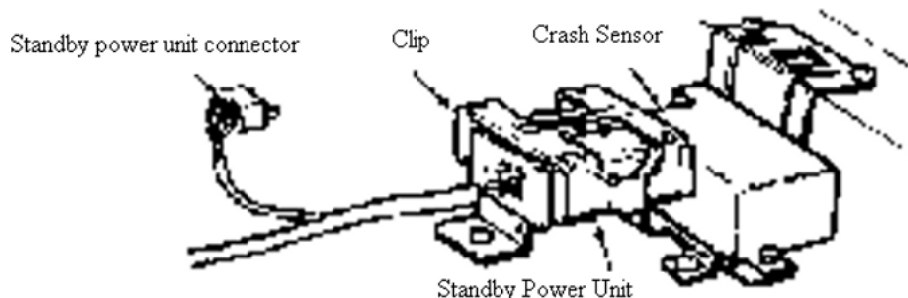

Fig. 4: SRS Crash Sensor & Standby Power Unit
3) Crash sensor is located under driver's seat in same bracket with standby power unit. See Fig. 4. Unbolt driver's seat guide rails from floor. Disconnect seat wiring connectors, and tilt seat rearward. Lift carpet and remove heating duct to expose crash sensor unit. NEVER disconnect harness connector from crash sensor or separate crash sensor from bracket.